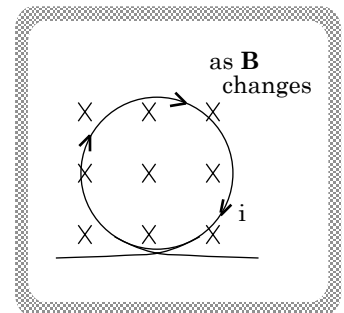

FIGURE 17.9
e.) As there is now a changing flux through the coil, there will be an induced EMF which, in turn, will cause an induced *current* in the coil. As we are not yet sure which way the current will flow, assume its direction is as shown in Figure 17.9. If that is the case, the following will be true: